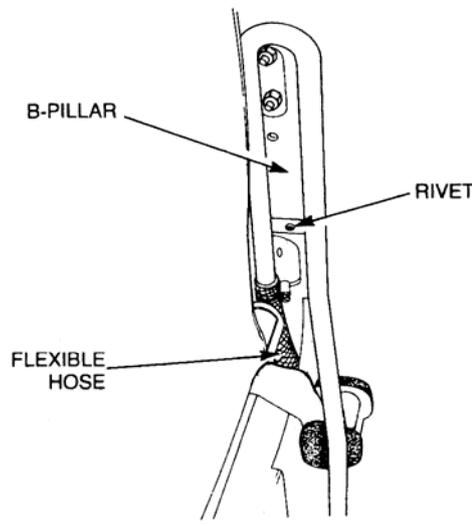

Figure 3 Fuel Tank Breather Pipe Removal
- Using a suitable drill, remove the rivet securing the breather pipe to the B pillar (refer Figure 3).